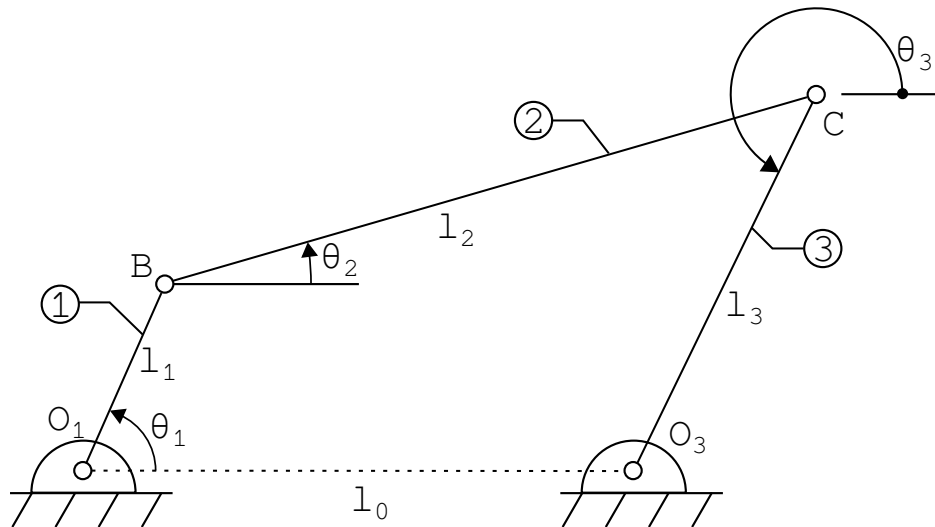

Figure 1: Four-bar linkage
- [20 points] Referring to Figure 1, let $l_0 = 30$, $l_1 = 15$, $l_2 = 35$, $l_3 = 20$, and $\theta_1 = \frac{\pi}{3}$. Calculate θ_2 , θ_3 , ${}^0v^C$, ${}^0\omega^2 = \omega_2 k$, and ${}^0\omega^3 = \omega_3 k$ for ${}^0\omega^1 = \omega_1 k$ with $\omega_1 = 20 \text{ rad/s}$.
- [15 points] Plot ω_3/ω_1 versus θ_1 curve for the linkage depicted in Figure 1 if $l_0/l_1 = 2$, $l_2/l_1 = 7/3$, and $l_3/l_1 = 4/3$.